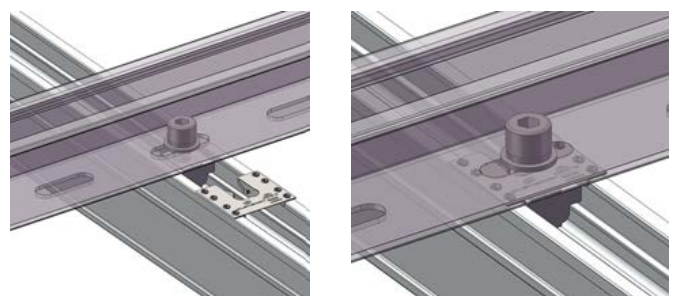

Figure 17
4) Insert the Ground Clip (EZ-GC-ST) between Cable Tray and ECO Rail for each fixing point, as shown in Figure 17.